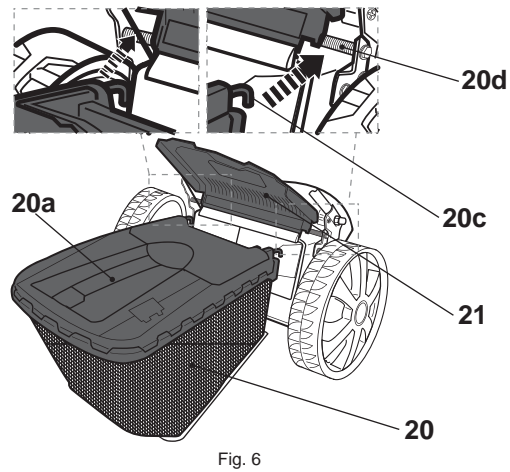

Fig. 6
- Open the rear deflector guard (21) and hold it in position.
- Align the hooks (20c) with the rod (20d) to hang it onto it (Fig. 6).